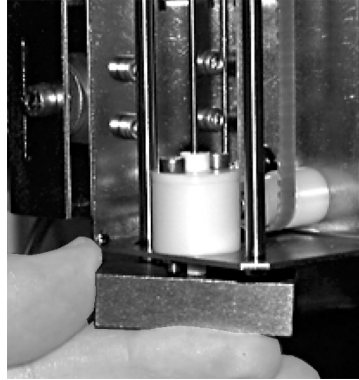

Fig.3: Needle home
- ◆ Locate a plane part under the rinsing block (See "Fig.3: Needle home, page 3") and manually move down the needle until contact with the plane part.